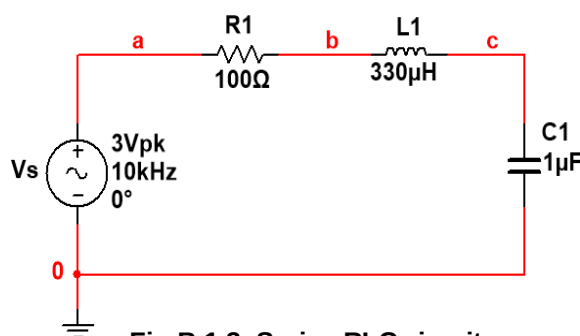

Fig.B.1.3: Series RLC circuit
13. Construct the circuit shown in Fig.B.1.3 on the bread board. Connect Channel 1 of the oscilloscope across the source V_S (positive red port to node 'a' and negative black port to node '0' i.e. ground). Connect the channel 2 at node 'c' (positive red port to node 'c' and negative black port to node '0' i.e. ground).
2. Draw the phasor diagrams for the circuits in Fig B.1.1, Fig B.1.2 and Fig B.1.3.